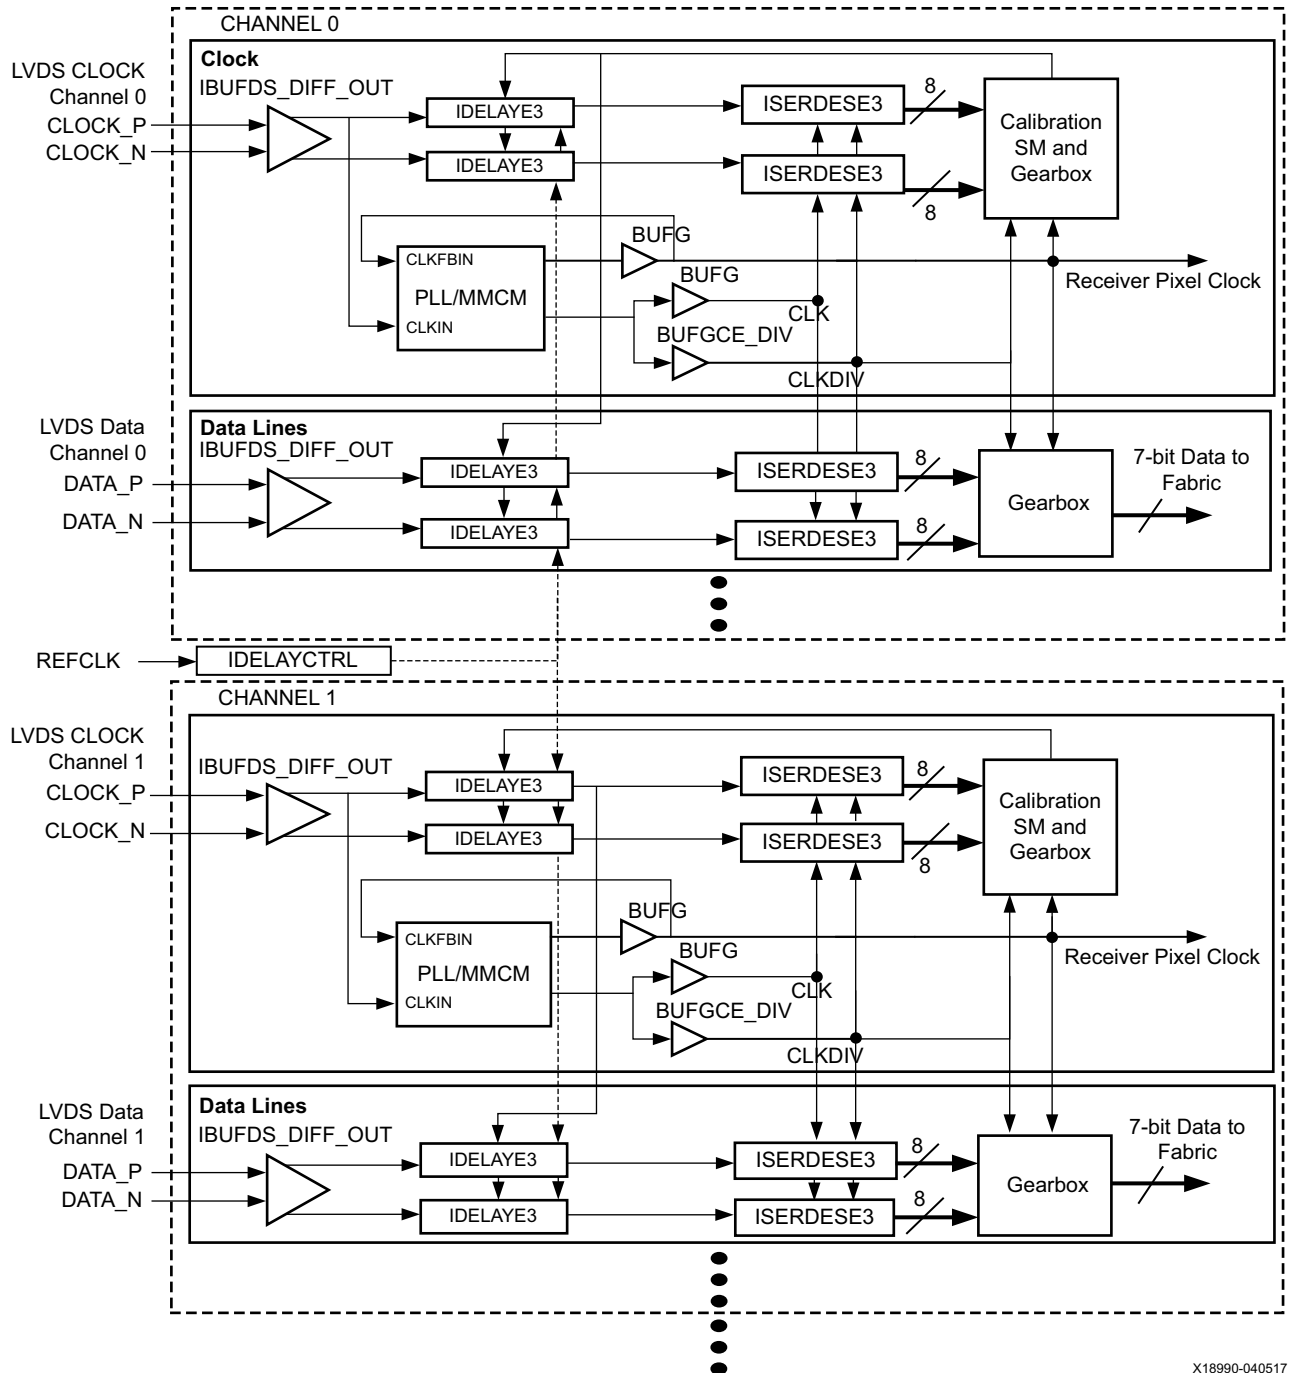

Figure 3: Data Reception
The receiver uses an ISERDESE3 in the 1:8 DDR mode with an 8:7 distributed RAM based gearbox (as shown in Figure 3) to deserialize and align the input data stream. This implementation requires three clock domains, a 1/2 rate sampling clock ( $rx\_clkdiv2$ ), a 1/8 rate deserialized data clock ( $rx\_clkdiv8$ ), and a 1/7 pixel clock ( $px\_clk$ ) which is equal to the original receiver source clock.
As well as routing directly to the MMCM or PLL, the input pixel clock is also connected to two ISERDESE3s via IDELAYE3 elements (as shown in Figure 3). The second IDELAYE3 and ISERDESE3 are available because the input standard is LVDS, which is a differential input. Differential inputs can connect to both of the associated delay elements when using the IBUFDS\_DIFF\_OUT.
An illustration of the receiver implementation is shown in Figure 3:
- Excessive skew between CLK and CLKDIV ports of the ISERDESE3 can result in receiver data misalignment at the fabric interface. To minimize skew, CLK and CLKDIV are derived from the same MMCM/PLL clock output as shown in Figure 3.